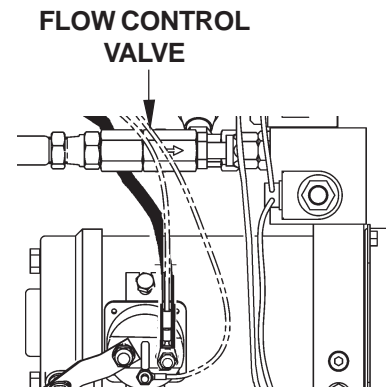

FIG. 45-3
3. Check and clean Flow Control Valve (**FIG. 45-3**) in high pressure hydraulic line connected to Pump. When installing Flow Control Valve make sure arrow on valve is oriented as shown in **FIG. 45-3**.